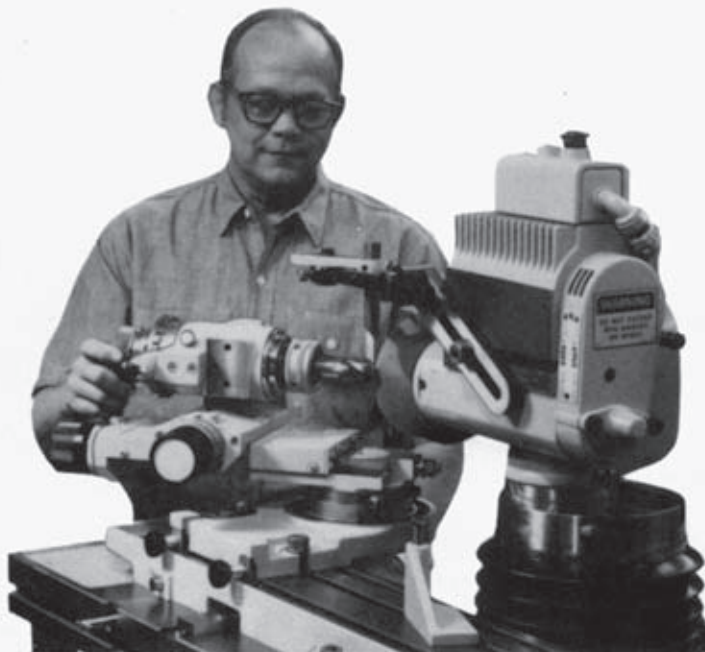

Figure 27/4 No. 1 Radius Grinding Attachment
4.13.1 No. 1 Radius Grinding Attachment (Fig. 27/4)